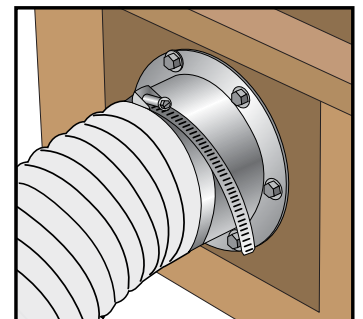

FIG. 31d
- Repeat the process to attach the opposite end of the Hose onto your tool's port [FIG 31d].